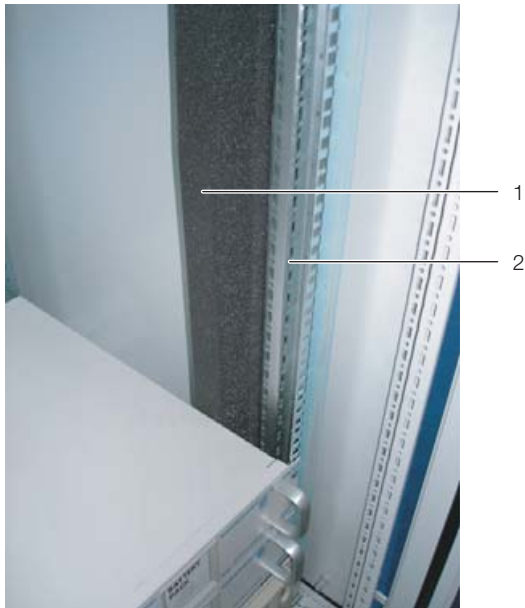

Fig. 25: Foam strip on a server rack support
accessories from outside onto one of the front supports of the server rack (fig. 25). Make sure to install this strip on the side of the server enclosure onto which the Liquid Cooling Package is to be bayed.
**Package on one side:** Fasten the narrower (Model No. 3301.380 / 3301.390) of the two foam strips from the Liquid Cooling Package accessories from outside onto one of the front supports of the server rack (fig. 25). Make sure to install this strip on the side of the server enclosure which will again be sealed by a side panel.